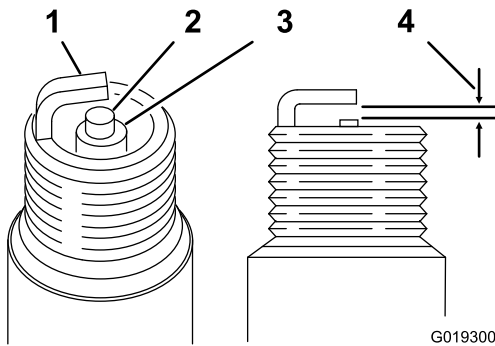

Figure 28
3. Ensure that the air gap is correct (Figure 28).